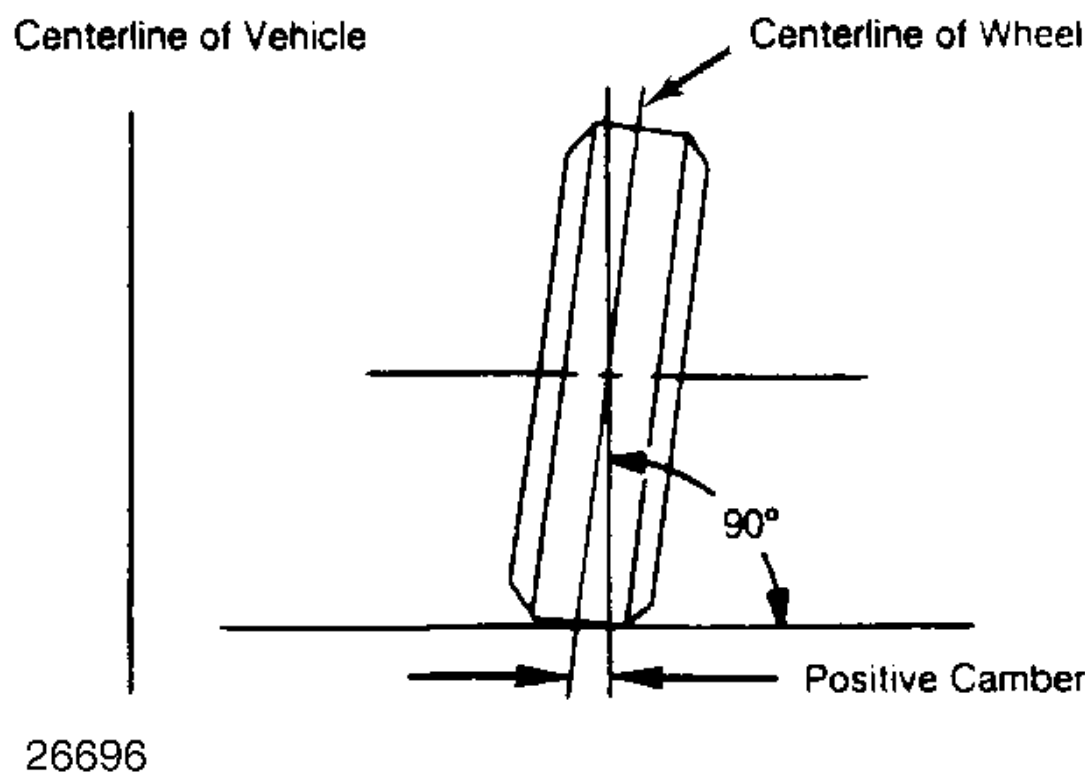

Fig. 3: Determining Camber Angle
- 1. Camber is the tilting of the wheel, outward at either top or bottom, as viewed from front of vehicle. See Fig. 3.